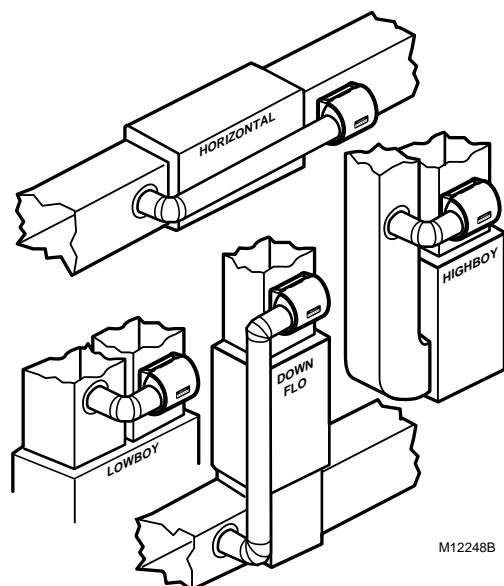

Fig. 1. Typical humidifier installation locations.
- Determine the best location for the humidifier and draw a level line on the plenum. See Fig. 1.